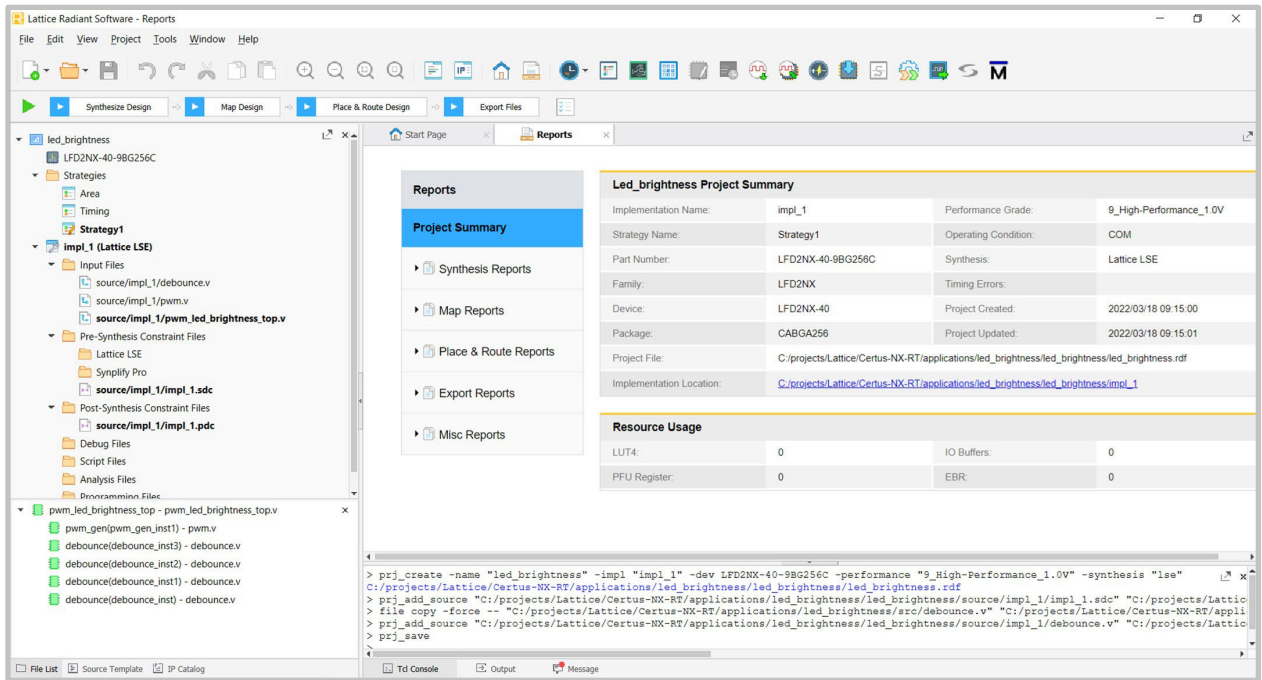

Figure 7: An Example of an Initial Project
7. The initial project with the provided files should look like **Figure 7**.